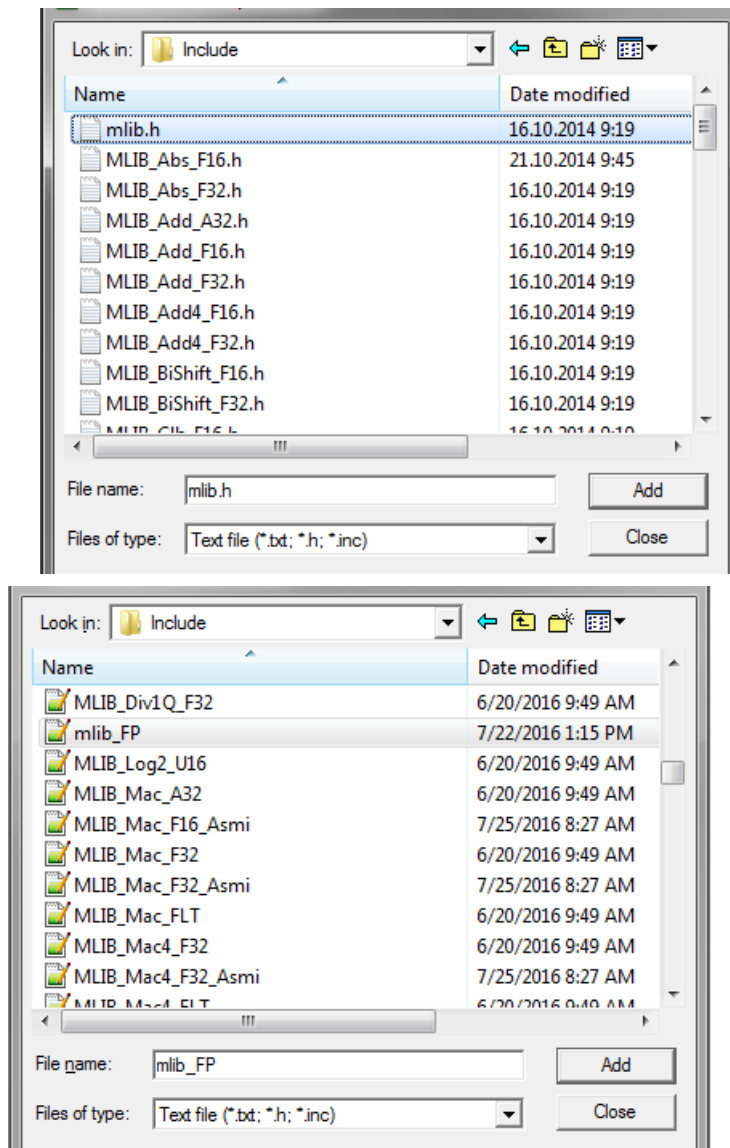

Figure 1-32. Adding .h files dialog
4. Navigate into the library installation folder C:\NXP\RTCESL\CM4CM33CM33F_RTCESL_4.6_KEIL\MLIB\Include, and select the *mllib_FP.h* file. If the file does not appear, set the Files of type filter to Text file. Click Add. See Figure 1-32.